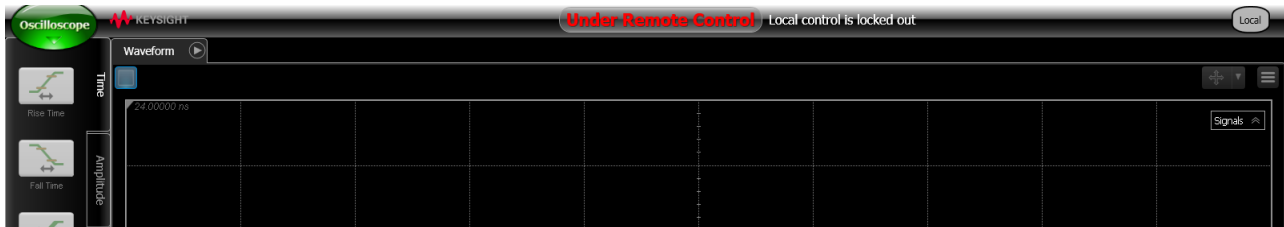

Figure 52 N1010A FlexDCA under Remote Control
- 2 After a connection between the N1010A FlexDCA Software and the Oscilloscope is established, the N1010A FlexDCA Software on your PC may indicate that it is remotely controlled, as shown in Figure 52.